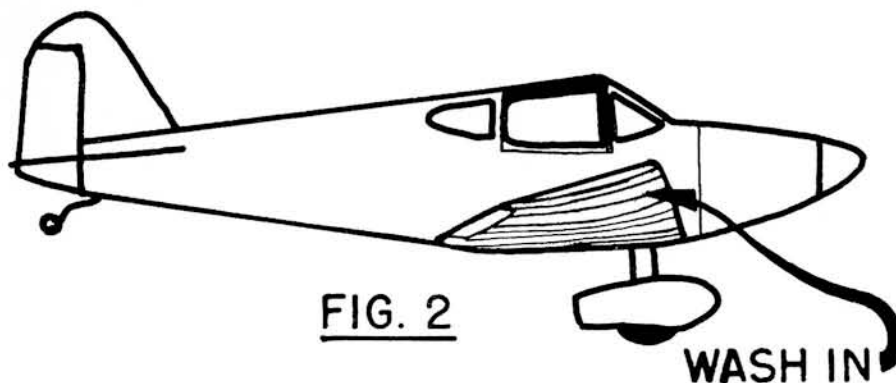

FIG. 2
1. Sight under wing and stab, from front and from back to check for warps. A little "wash-in" in the left wing is O.K. to help keep this wing up in a left hand power pattern. The stab should be *absolutely* flat. Twist surface in opposite direction over heat to remove warps. Wash-out in both tips is a good idea for low wing or low dihedral models. (Fig. 2, 3)